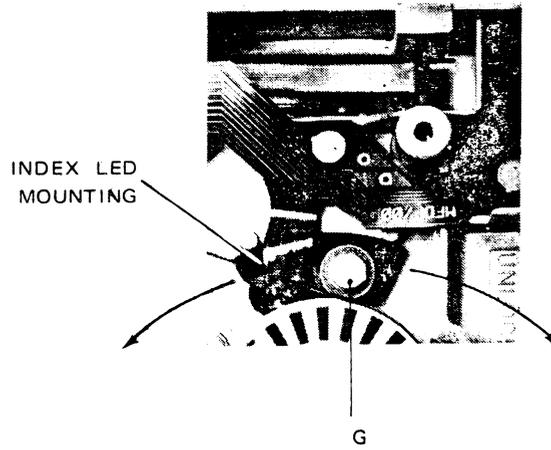

Figure 7.4 INDEX TO BURST ADJUSTMENT
#### 7.2.6 INDEX TO BURST ADJUSTMENT (FIGURES 7.4 AND 7.5)
- e) If not, slacken screw 'G' (figure 7.4) and adjust index LED.